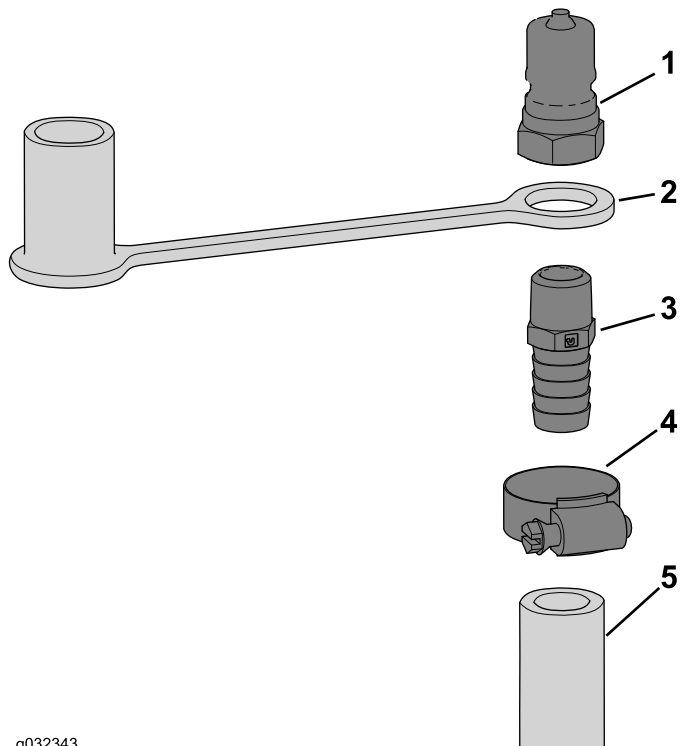

Figure 16
- Slide the dust cap over the threaded end of the straight fitting as shown in Figure 16.
- Thread the straight fitting to the male coupler (Figure 16).
- Slide a hose clamp over the hose (Figure 16).
- Insert the barbed end of the assembly into the hose and secure it with the hose clamp as shown in Figure 16.